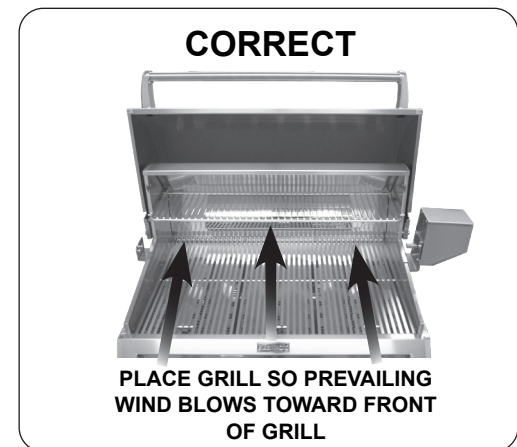

Fig. 12-2 Airflow direction - CORRECT
**CAUTION:** Wind blowing into or across the rear oven lid vent (Fig. 12-3) can cause poor performance and/or dangerous overheating. Orient the grill so that the prevailing wind blows toward the front of the grill (Fig. 12-2). **A wind deflector is available for purchase to assist in proper airflow during windy conditions.** See Table 3 for model numbers. Follow the instructions included with the wind deflector for installation.